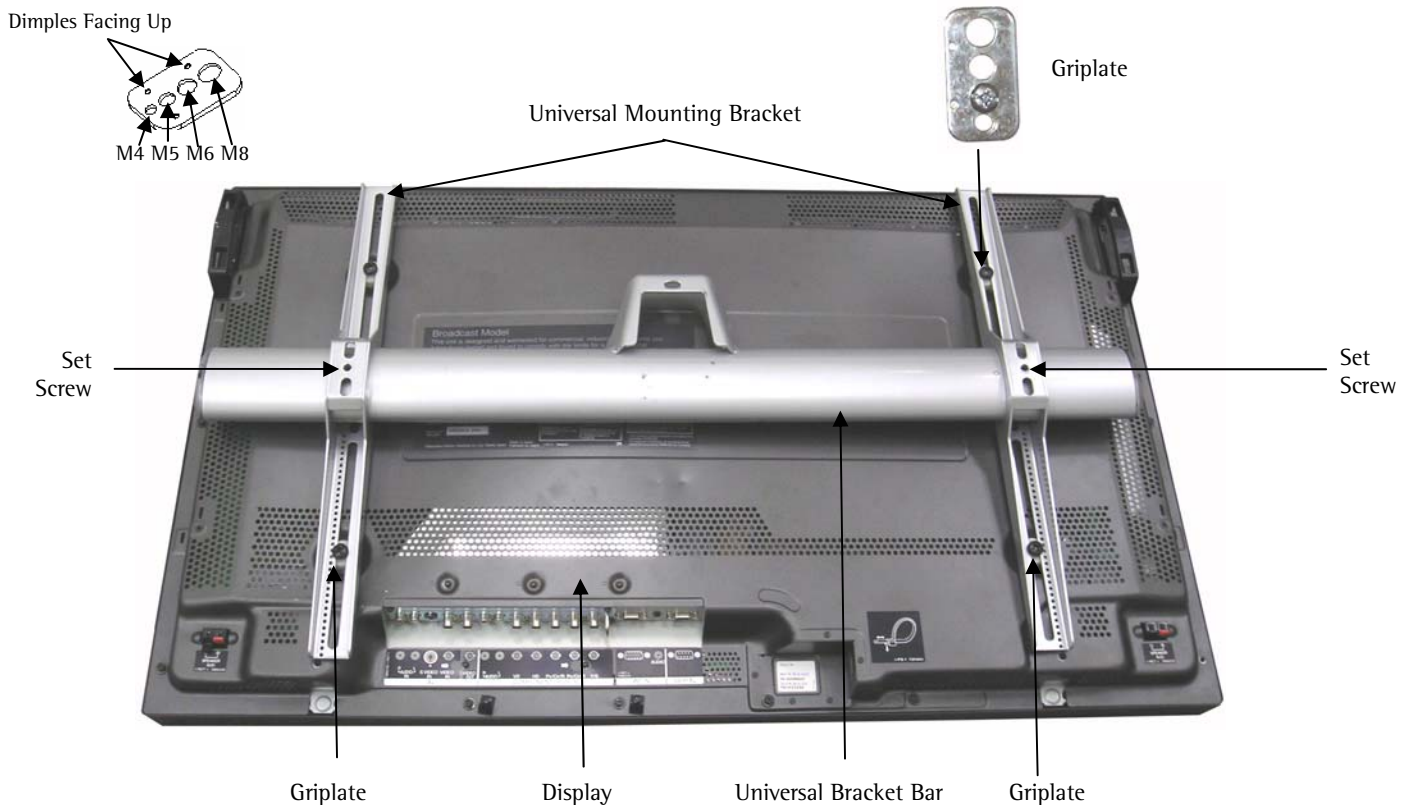

Figure 9
2. Slide the universal brackets onto the universal bracket bar (as shown in Figure 9) with the set screws facing up.